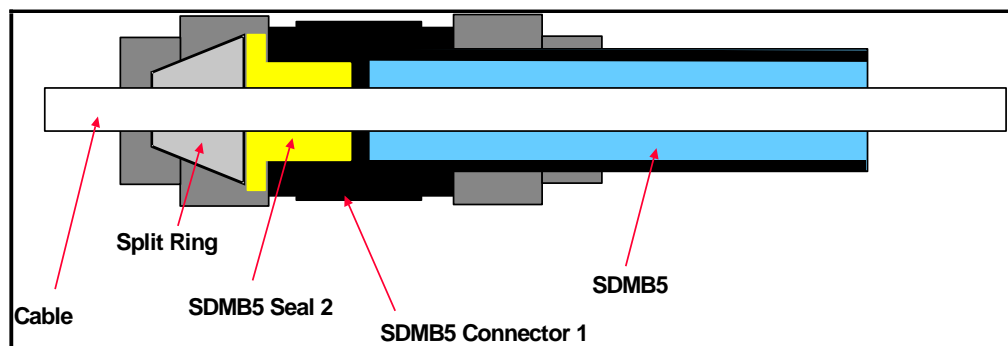

Figure 8 SDBM5 Seal 2
Seal for SDBM5 connector (SDBM5, Seal 2). This provides the seal between the cable and the SDBM5 at cable / jointing points and mid-point blowing locations, (see Figure 8).
6. Depending on cable size, fit SDBM5 Seal 1 or 2 (split seal) around cable where it emerges from each length of SDBM5. Insert into SDBM5 Connector 1 and tighten collar to compress seal to give a fully water tight cable/subduct seal, as shown in Figure 2 or Figure 8 (as appropriate).
The diagram below shows how the SDMB5 should be installed through an Off-Track Box where it allows mid-point blowing from position C (see Section 6.1.2 and Figures 8 & 9 for installation details).